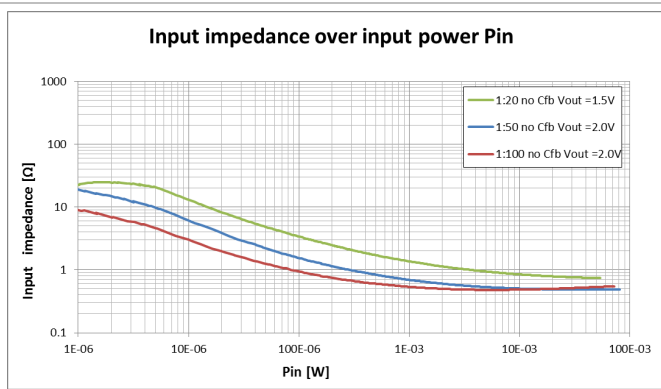
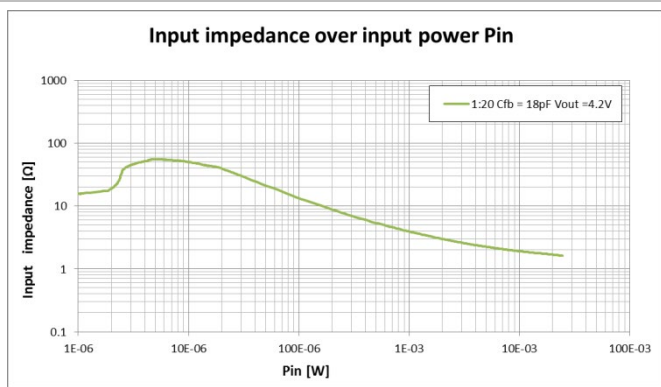

Figure 3-2 Input Impedance vs Power No C_{FB}
Figure 3-8 Input Impedance vs Power C_{FB} 18 pF
The Figure 3-2 to Figure 3-8 allow extracting the DCDC input impedance R_{IN} as a function of P_{IN} , CFB and the transformer turn ratio.
- According to the Figure 3-8, the ideal TEG electrical resistivity is about 4 Ω at 1 mW.
According to Figure 3-8 the input impedance of the DCDC converter is: $R_{IN} = 3.5 \Omega$ at 1.61mW